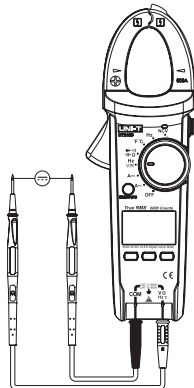

Fig. 5
4. Measurement of DC voltage (shown as Fig. 5)